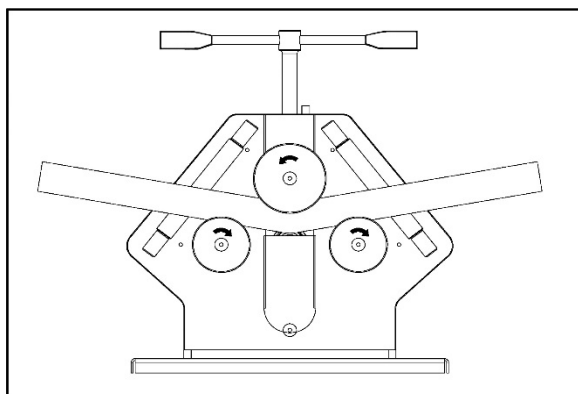

Figure 8-5: repeat
5. Send material through again (Figure 8-5).